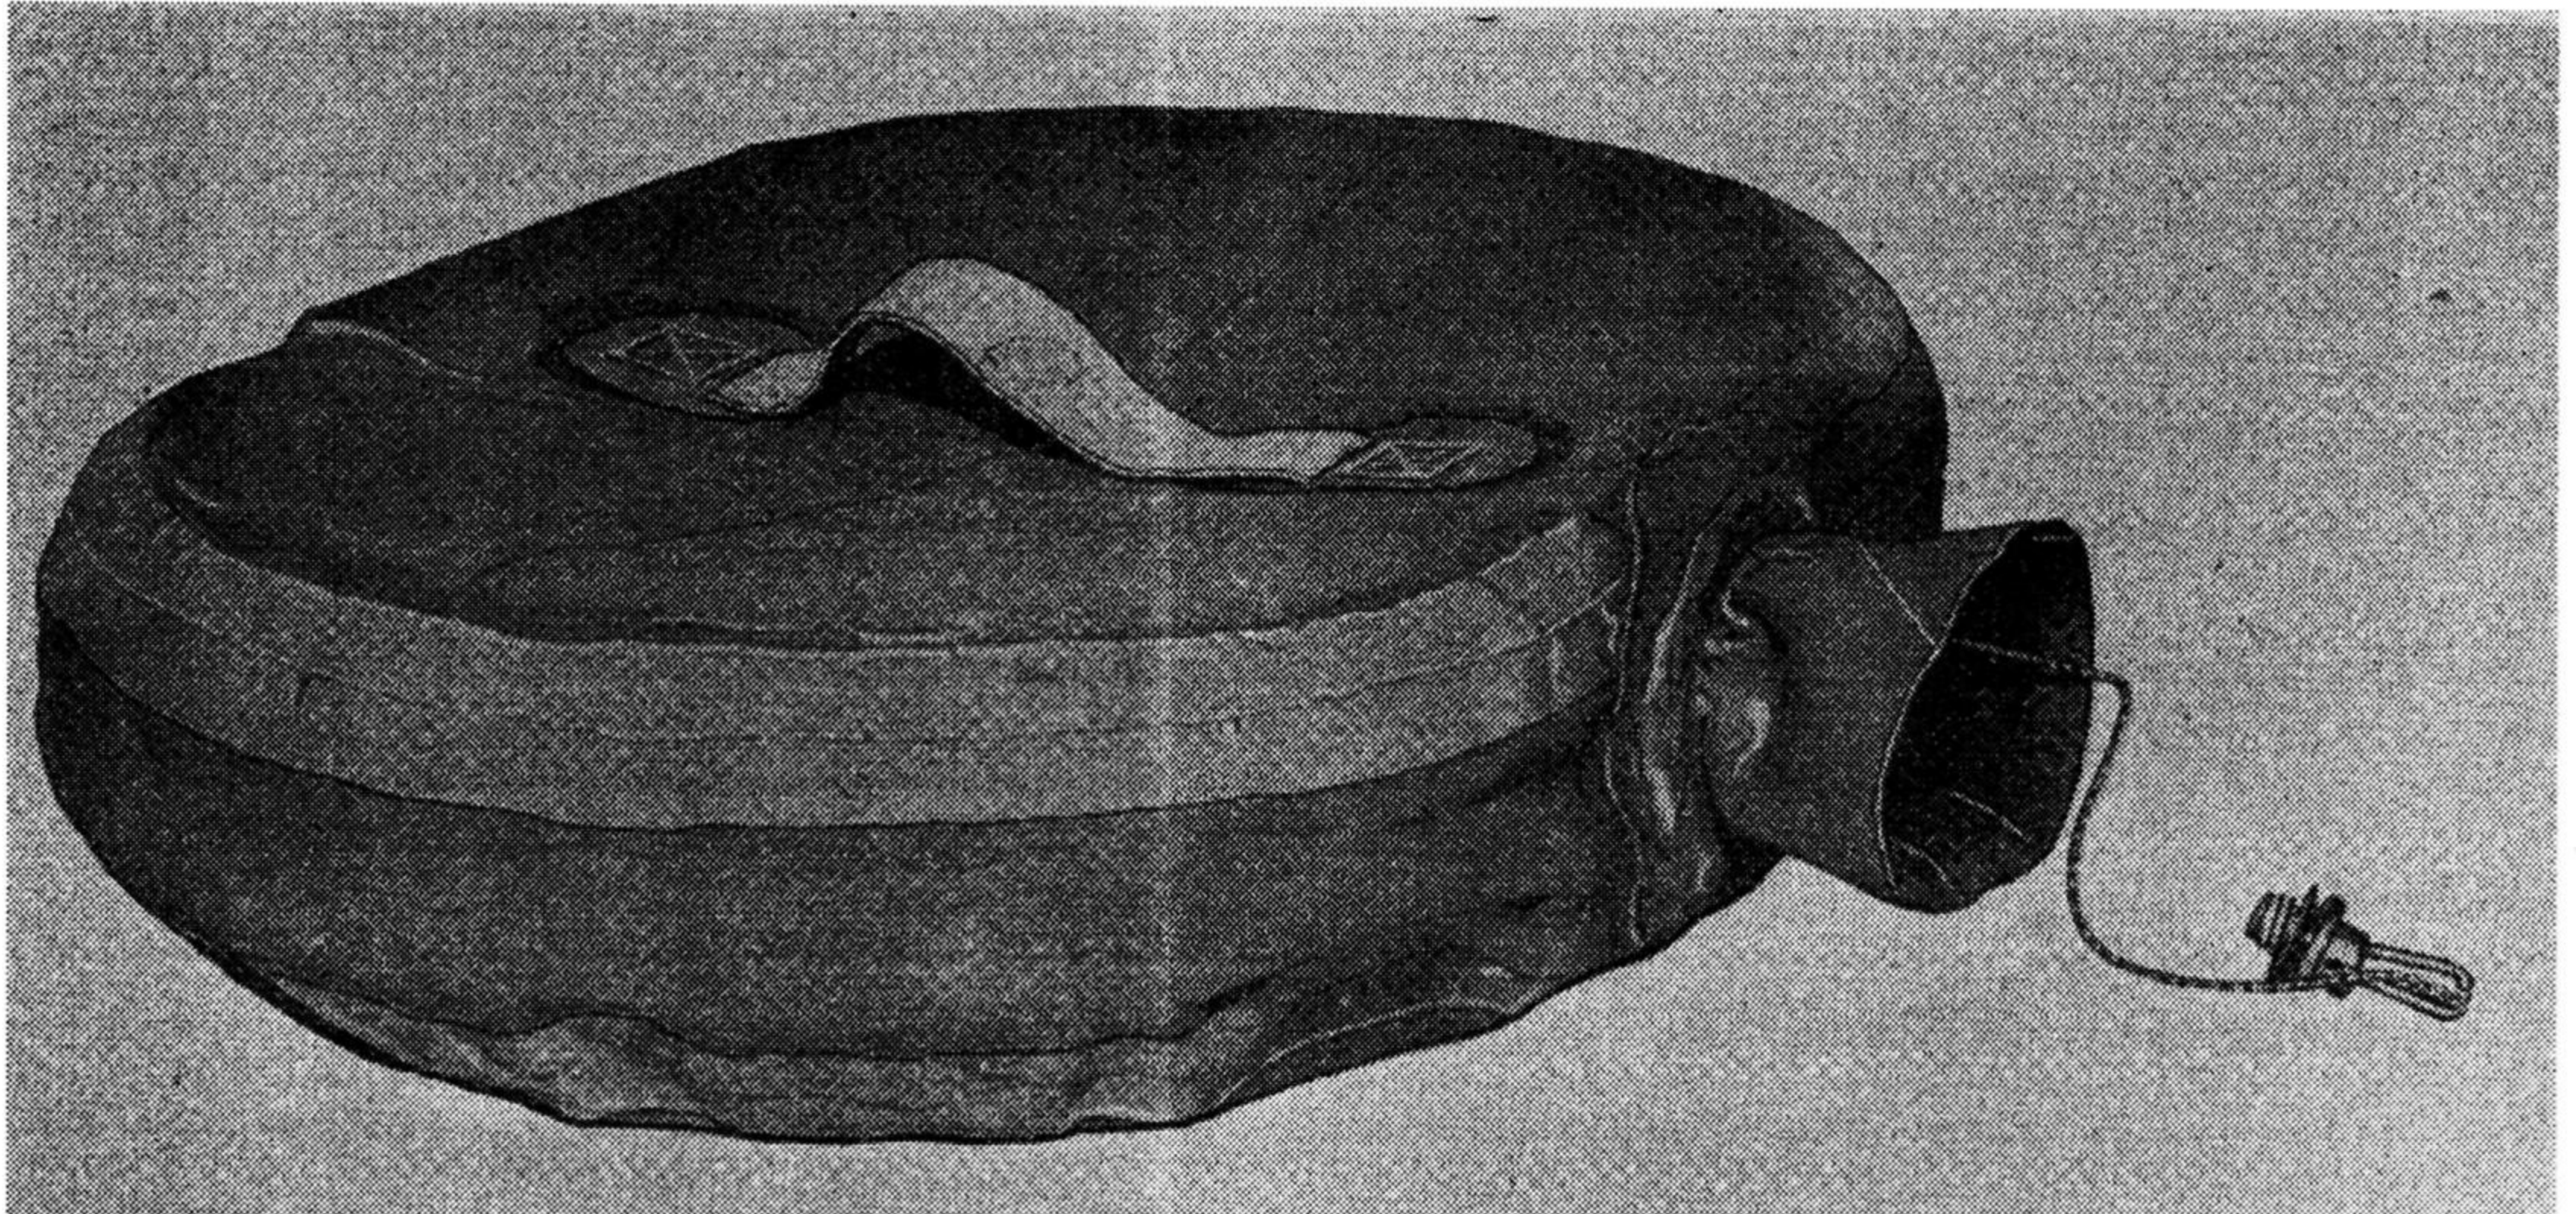

Fig. 4. Water storage bag
17. The water storage bag (fig. 4) is made of two-ply rubber-proofed fabric to an oval, elliptical shape measuring approximately 12 in. by 9 in. and a screw cap is provided to close the funnel neck. When in a dinghy, rain water which collects on the weather apron may be salvaged and stowed in this bag; the funnel shape of the neck enables the water on the weather apron to be poured into the bag without difficulty. When partially filled with water, the bag may be used as a cushion, it may also be inflated with air for this purpose, and the internal surfaces are connected by cord at two points to quilt the bag when it is used as a cushion.